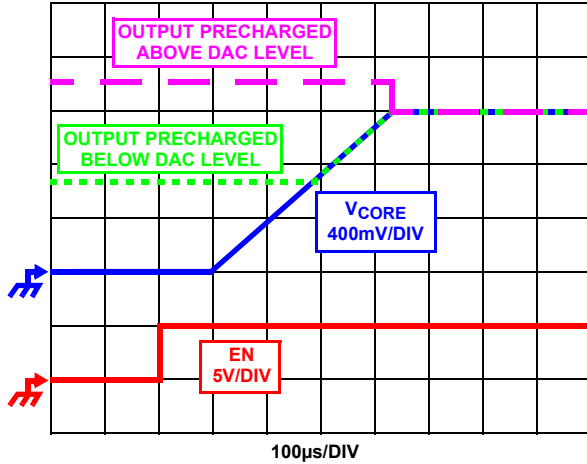

FIGURE 12. SOFT-START WAVEFORMS FOR ISL6328A-BASED MULTIPHASE CONVERTER
The ISL6328A features a dual function enable input (EN) for enabling the controller and power sequencing between the controller and external drivers or another voltage rail. The enable comparator holds the ISL6328A in shutdown until the voltage at EN rises above 0.86V. The enable comparator has about 110mV of hysteresis to prevent bounce. It is important that the driver ICs reach their rising POR level before the ISL6328A becomes enabled. The schematic in Figure 12 demonstrates sequencing the ISL6328A with the ISL66xx family of Intersil MOSFET drivers, which require 12V bias.